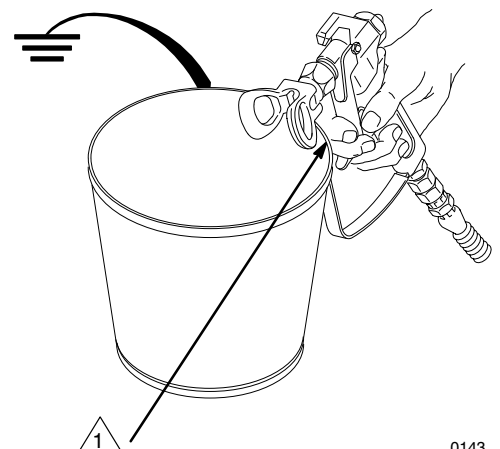

Fig. 4
7. **To prime the pump**, hold a metal part of the gun firmly against into a metal waste container. See Fig. 4. Squeeze the trigger and hold it open, turn the ON/OFF switch to ON, and slowly increase the pressure setting until the sprayer starts. Keep the gun triggered until all air is forced out of the system and the paint flows freely from the gun. Release the trigger and engage the gun safety latch.
7. Hold a metal part of the gun firmly against a metal waste container. See Fig. 4. Hold the trigger open, turn on the sprayer, and slowly increase the pressure just until the sprayer starts. Keep the gun triggered until all air is forced out of the system and the solvent flows freely from the gun. Release the trigger and engage the gun safety latch.